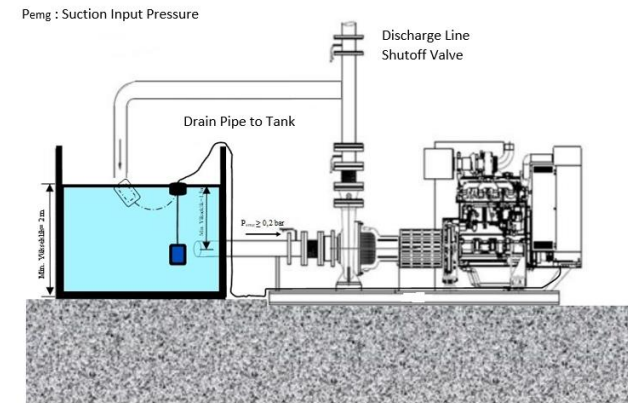
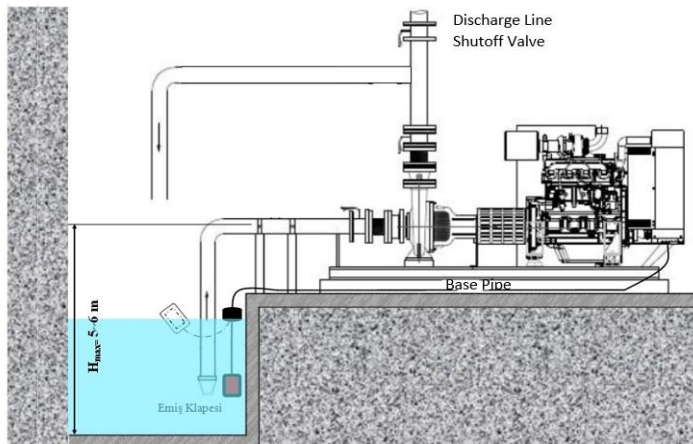

Figure 8.1 Positive suction fire Hydrophore system
Figure 8.2 Negative suction fire Hydropower system
- ❖ If the water reserve source is at the same or higher level as the tank with the pump, installation should be done considering **Figure 8-1**. Otherwise, if the water reserve source is at a lower level than the pump, such as a pool, well, or stream, appropriate installation should be done according to the pictures in **Figure 8.2**.